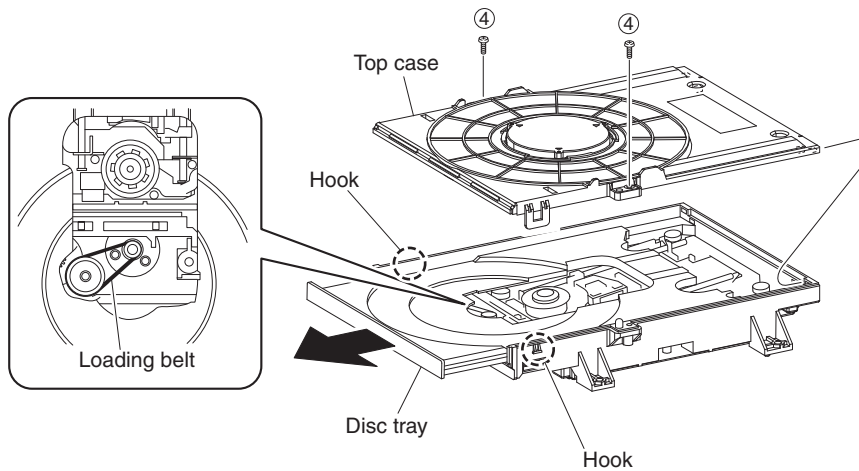

Fig. 3
- Remove 2 screws (④). (Fig. 3)
- Release 2 hooks and then remove the top case. (Fig. 3)
- Eject the disc tray and then remove the loading belt. (Fig. 3)